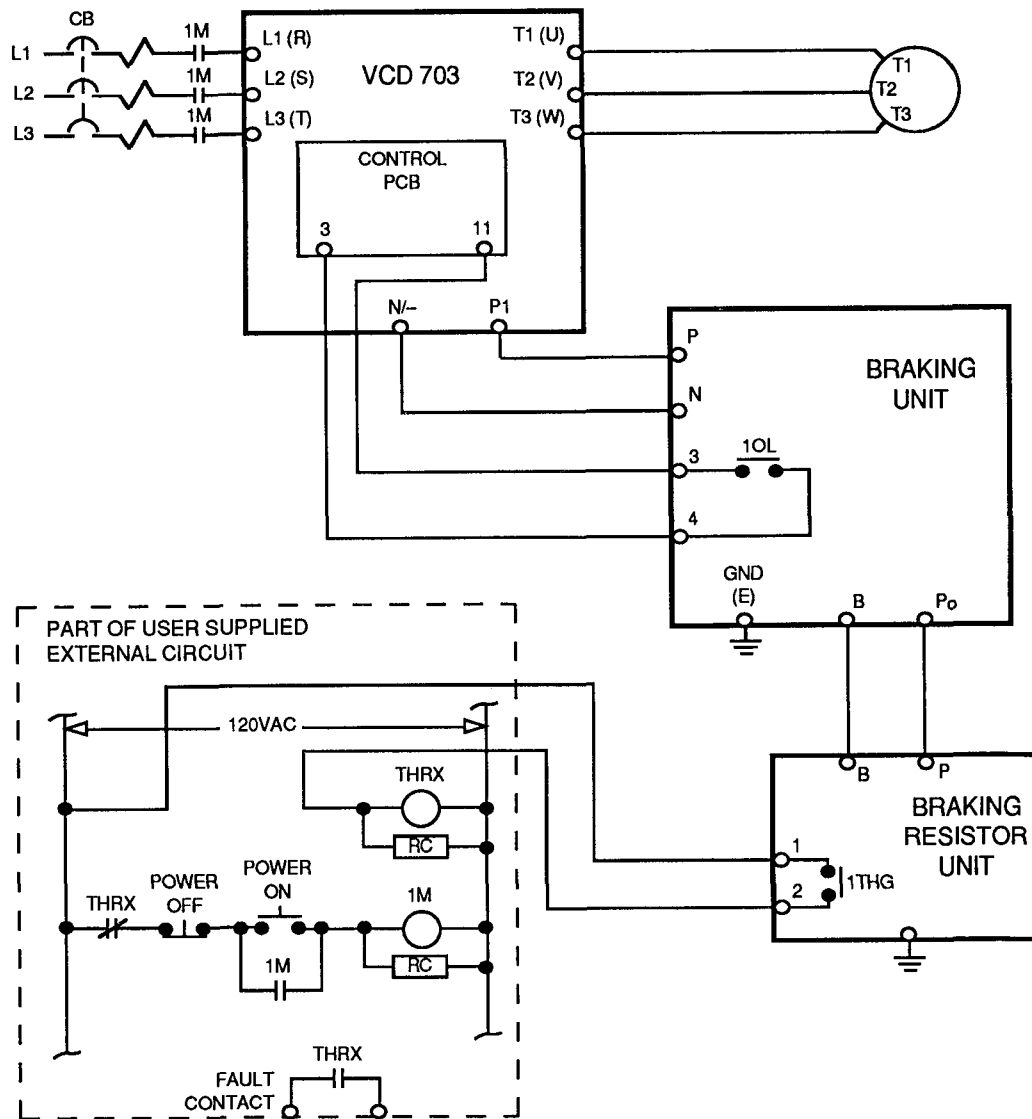

Figure A5-4. Wiring Single Braking Unit and Braking Resistor Unit to Drive (230V 15-30HP, 460V 25-60HP)
5. If a single Braking Unit and Braking Resistor Unit are being installed, connect them to the drive and external control circuitry according to the chart below and Figure A5-4.